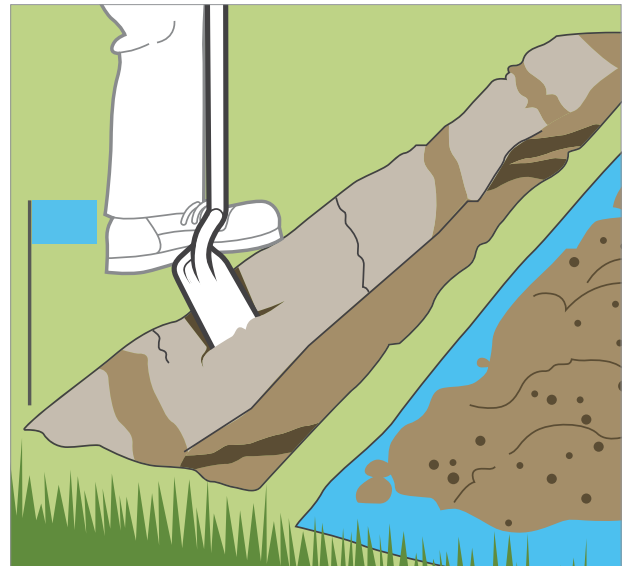

Figure 2
4. Trenching: Check local codes. If there are no established local codes for sprinkler main line depth in your area, trench 25 cm to 30 cm deep. Trench 15 to 20 cm for lateral lines. Trenching can be done by hand or with a trencher. Trenchers are available at most equipment rental yards *Figure 2*.